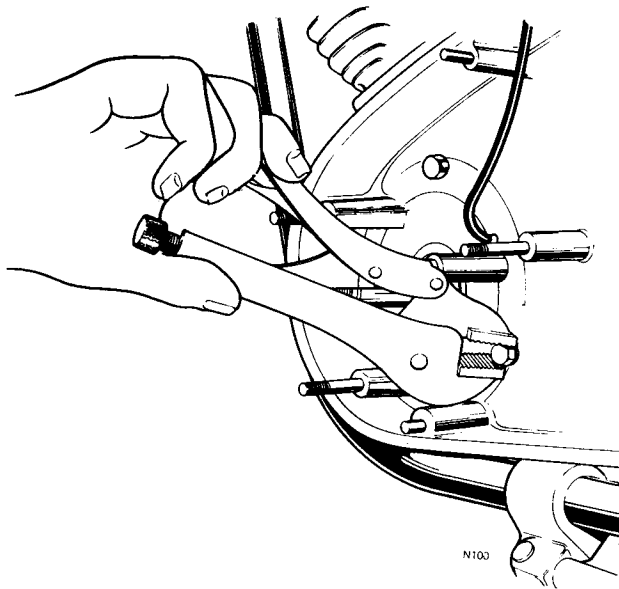

Fig. C44 Using grip wrench to squeeze over tab washers at inner chaincase
- 7 Fit the inner chaincase securing tab washers and set screws and squeeze over the locking tabs using a grip wrench as shown in *Fig. C44*.